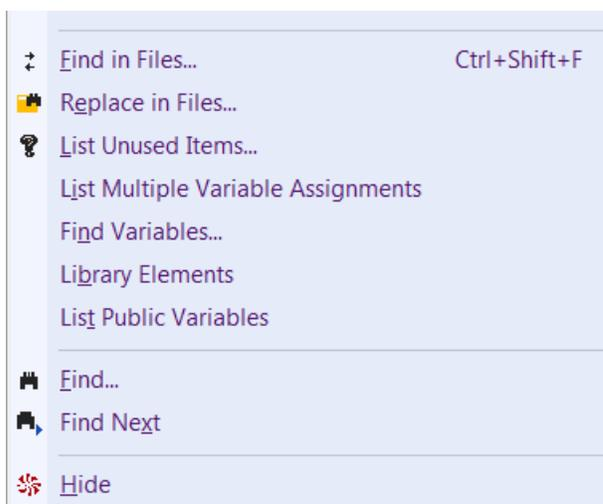

Figure 20: Cross reference commands in a popup menu
- the Cross references context menu in the Output window (Figure 20).